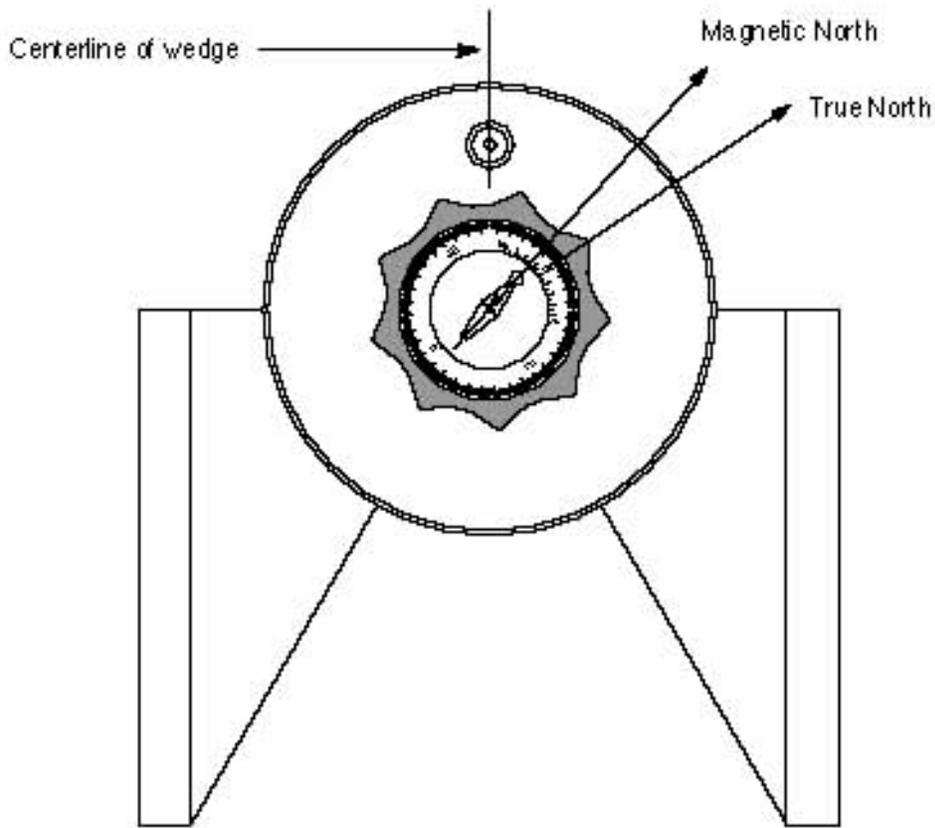

Fig. 18: Equatorial Wedge
2. Rotate the knob/compass so that the magnetic pointing arrow lies directly over the painted black alignment arrow (painted on the bottom surface of the compass, **Fig. 18**). The "North" position on the direction scale (and the point on the knob/compass) now point directly north.